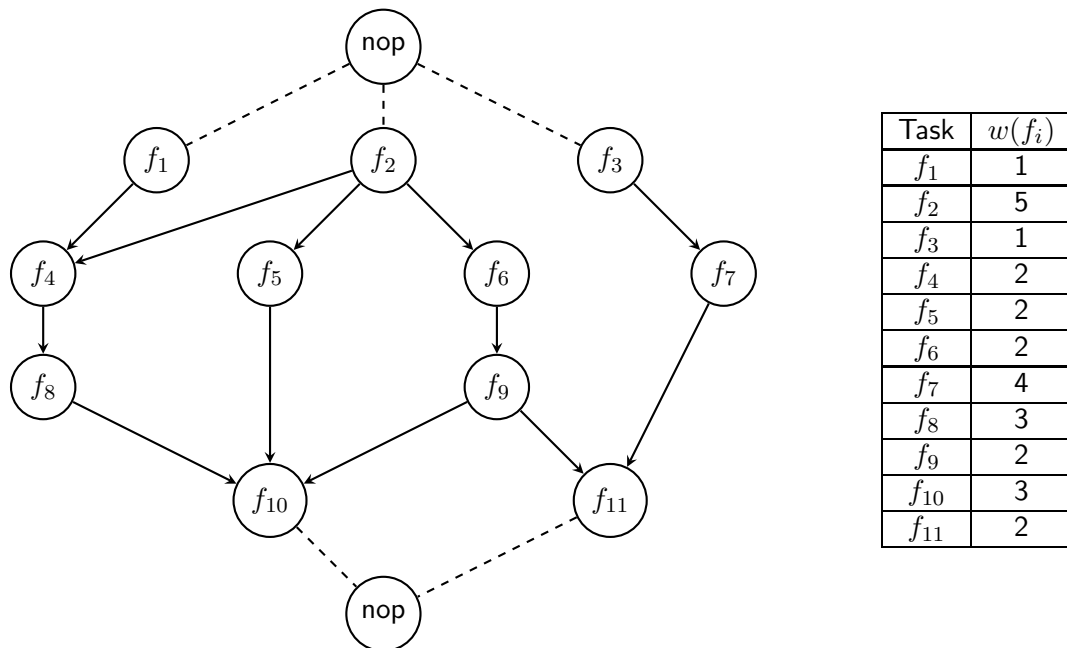

Figure 12: A sequence graph and execution times
Consider the sequence graph and execution times $w(f_i)$ of tasks f_i in Figure 12, answer the following questions.
- (a) (2 Points) Complete the Weighted Constraints Graph $G_C = (V_C, E_C, d)$ by annotating edges with numbers in Figure 12.
- (b) (5 Points) Formulate the following constraints using $\tau(f_i)$ as the start time of task f_i . Add appropriate annotated edges to the constraint graph G_C in Figure 12.